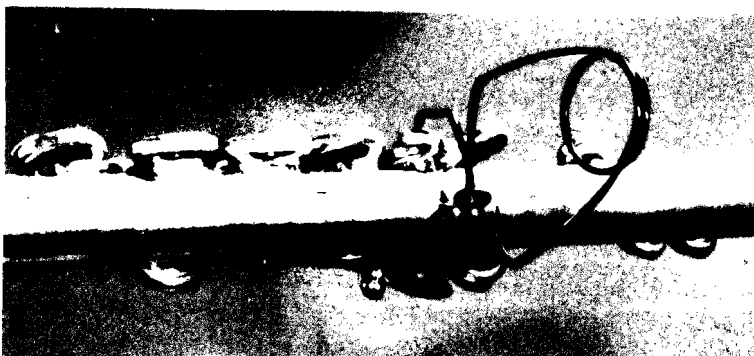

Figure 34
11. Place a pad clamp(s) over the key(s) (Figure 34) and allow to dry for several hours, preferably overnight.